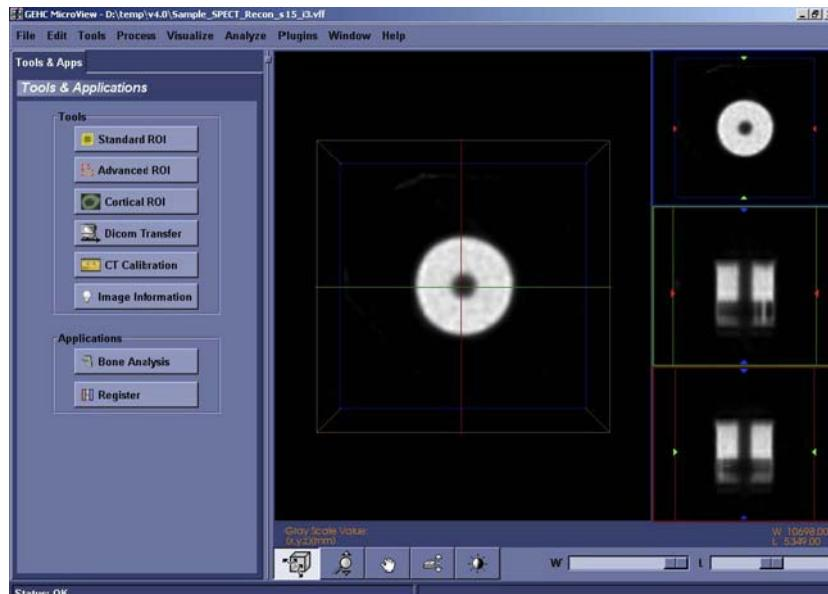

Figure 7-58
- 3.) After recon is complete, MicroView is used to load the recon image as shown in Figure 7-58.